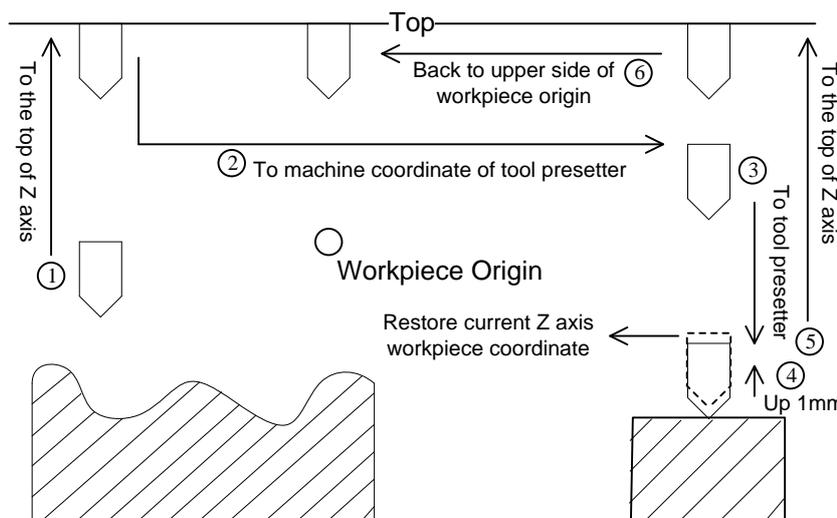

Fig. 3-31 Measurement after tool change
- 4) After tool change or tool break, press F2 "After Tool Change" in Fig. 3-31 to execute calibration after tool change. The process is as shown below, and automatically completed by the system.